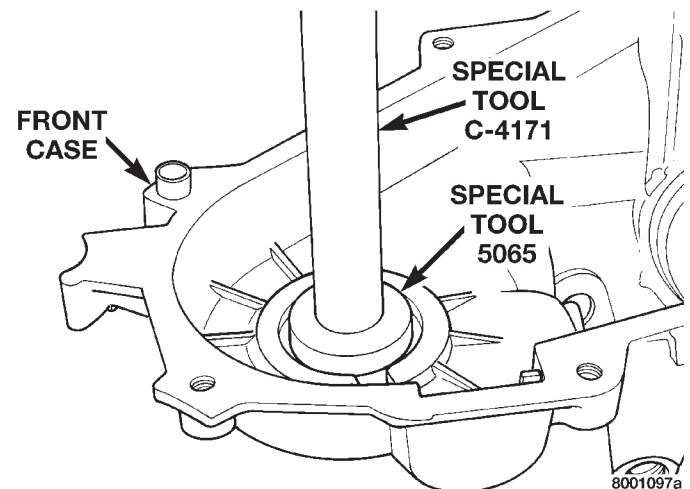

Fig. 42 Front Output Shaft Bearing Removal
- (3) Remove bearing with Tool Handle C-4171 and Tool 5065 (Fig. 42).